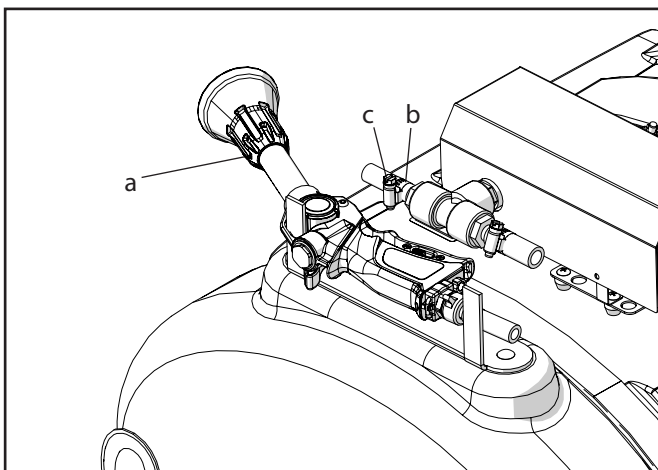

Figure 5: Spray gun installation
1. Install the Spray gun kit (Part # T740) (a) by connecting the spray gun hose to the 3/8" hose barb (b) with the included hose clamp (c) as shown (Figure 5).
2. The spray is mounted on the sprayer by placing it on the spray gun mounting plate (d) on top of the spray tank as shown (Figure 5).